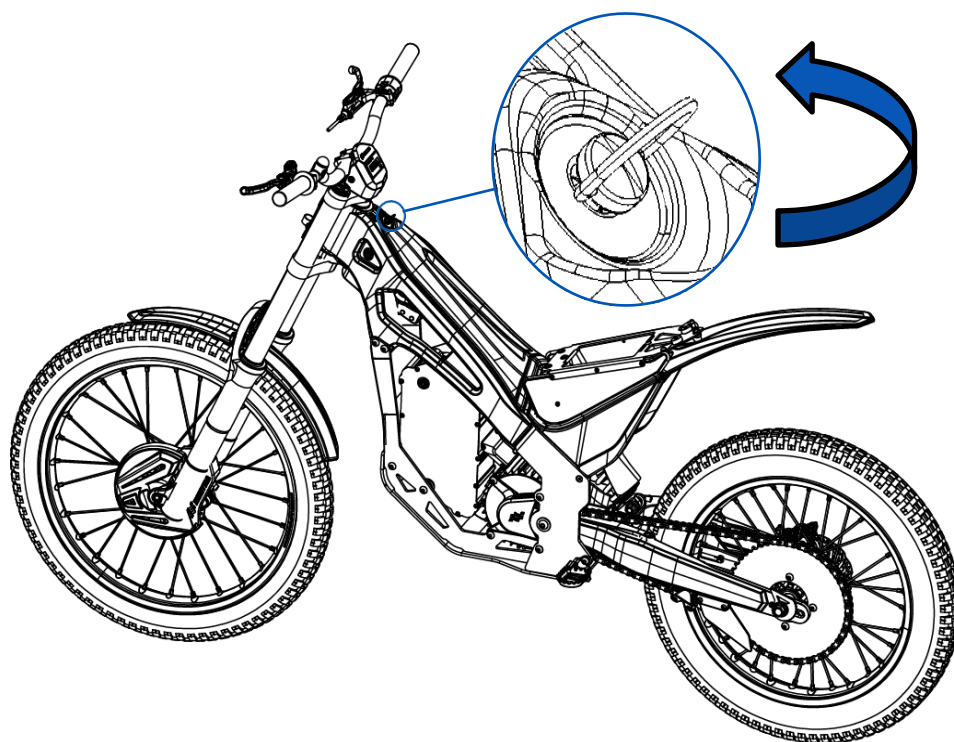

Fig. 40
3- Next, turn the quick screw located on the top (Figure 40) half a turn to the left. Remove it without removing it from the upper casing, to remove this component from the frame.
- 3- Next, turn the quick-release screw located on the top (Figure 40). Remove it without actually removing it from the upper casing, in order to remove this component from the frame.